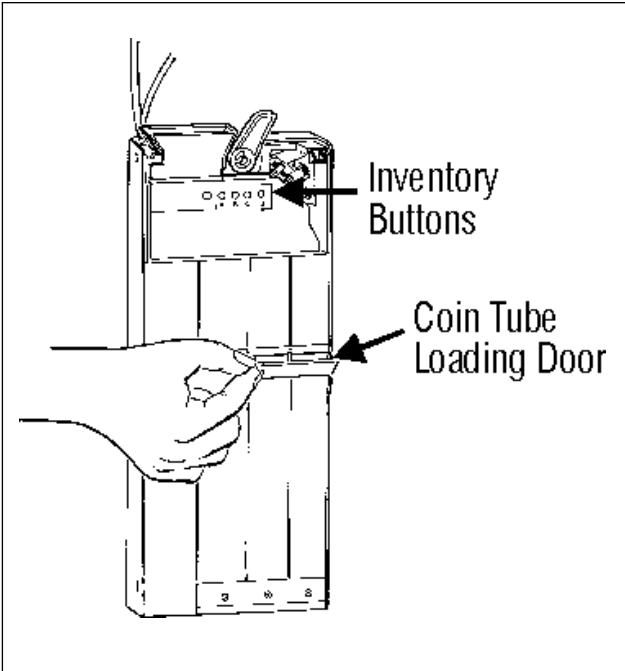

Figure 4
9. If coin tube loading door is not locked (additional option) hand load the four coin tubes (see Figure 4). Tilting the coin tube loading door open, load the four coin tubes. Make sure all coins lie flat and that each tube is filled at least to the 20% mark. Payout at least two coins from each tube to set tube counters. If audit is required, enter Display Mode (see "Display Mode" section) and feed coins in through acceptor.